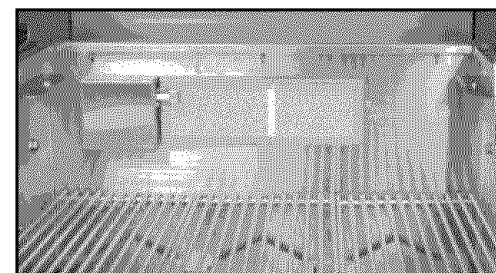

Fig. 17
3. Install cooking grates on the ledges provided on the grill to create your cooking surface. (placing the one with a thumb hole in the middle) (See. Fig. 17)